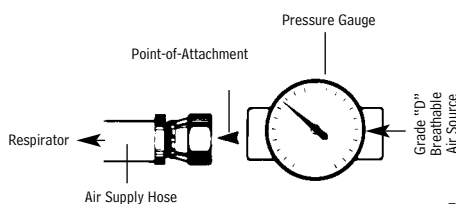

Figure 17
3. Adjust air pressure at point-of-attachment to within the approved pressure range (see Figure 17). See the Breathing Air Pressure Table (page 8) for approved pressure ranges.